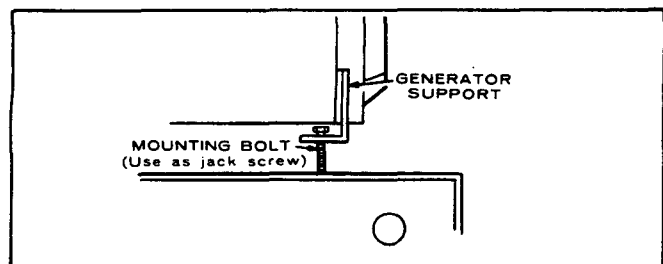

FIGURE 3
3. After determining the proper clearance for each side of the skid base, turn jackscrews in the threaded holes to allow a clearance for placing the shims between skid base and generator support (Figure 3). Lower generator (using jackscrews) and allow to rest on shims. Recheck the total generator clearance, base to support; it must equal the base to support clearance plus the .035 inches.